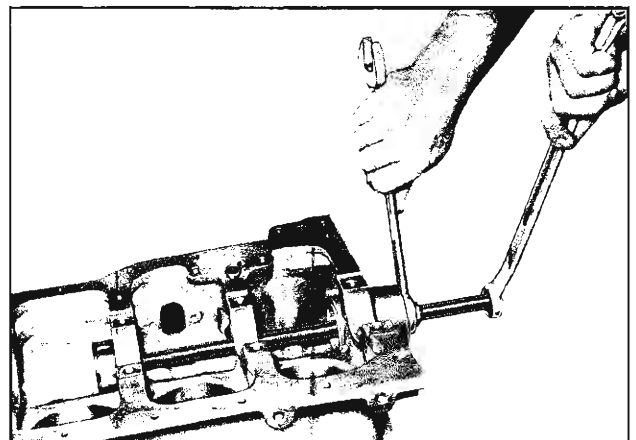

Fig. 39—Installing Camshaft Center Bearings
4. Using two wrenches, hold screw shaft and turn puller nut to pull bearing into place (fig. 39).